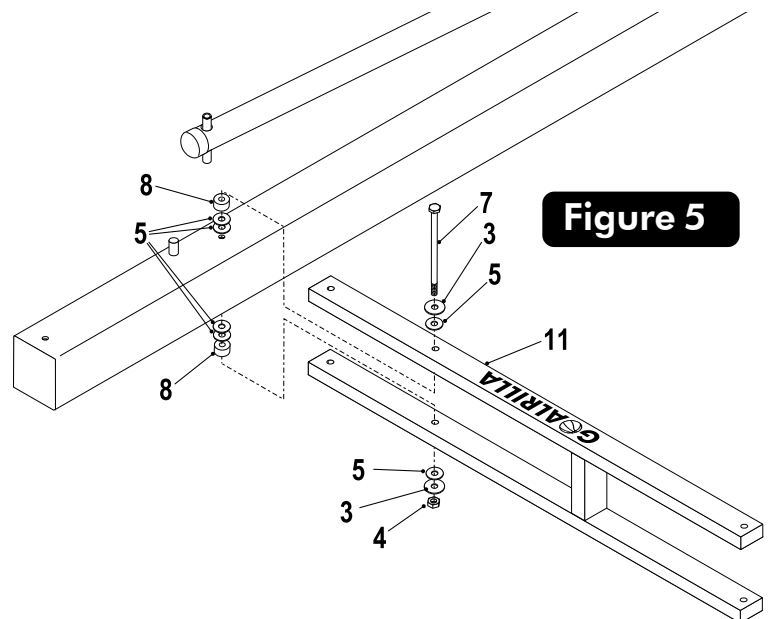

Figure 5
- Attach lower arm (#11) to Pole (#2), as shown in Figure 5, using a bolt (#7), two flatwashers (#3), six plastic washers (#5), two spacers (#8) and hex nut (#4). Do NOT tighten bolt (#7) at this time.